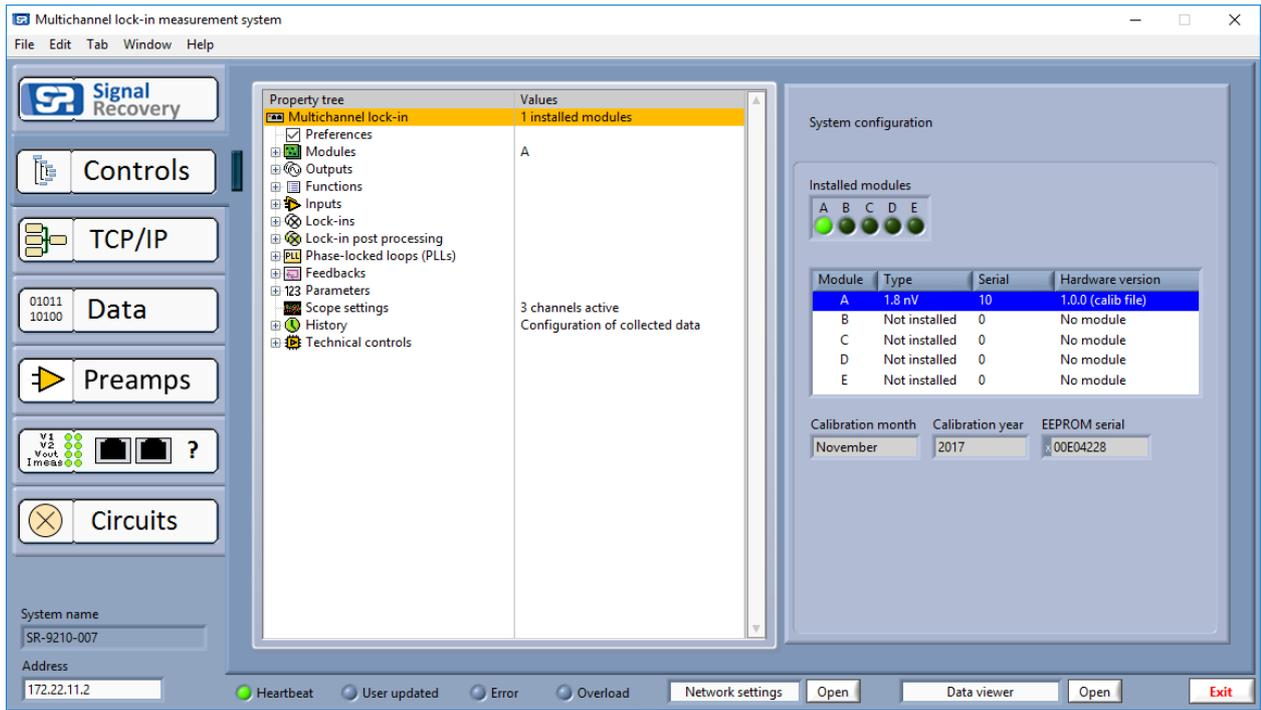

Figure 5, MCL Software Main Display
- 4) When the program loads it will search for compatible hardware and display the main screen, as shown below in figure 5. The System Configuration section of the display shows the hardware that is found; in the screen below (figure 5) the unit has one signal processing board fitted in position A.